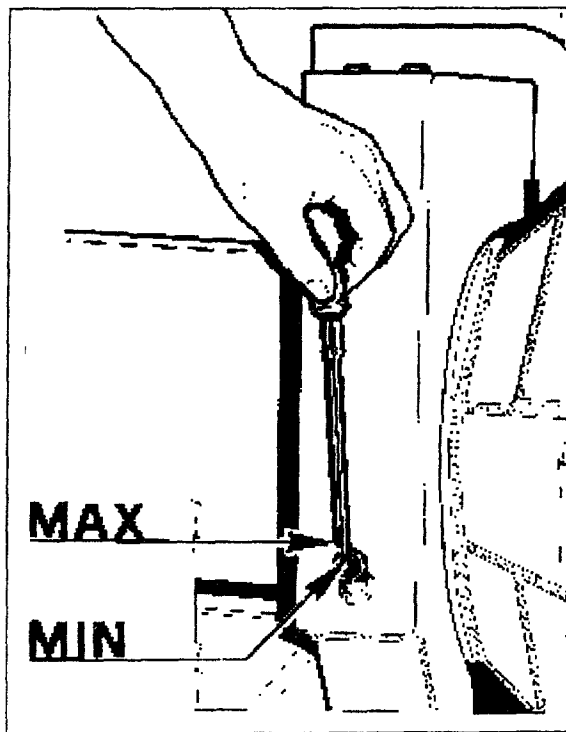

Fig.53
- Check once a month the oil level of the speed reducer (Fig. 53). The chuck arm should be completely lowered when the check is performed.